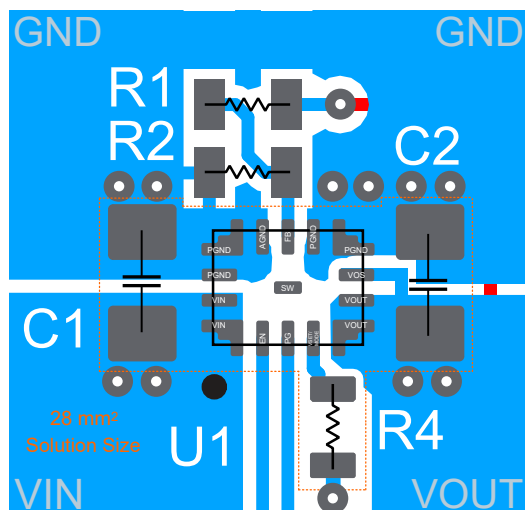
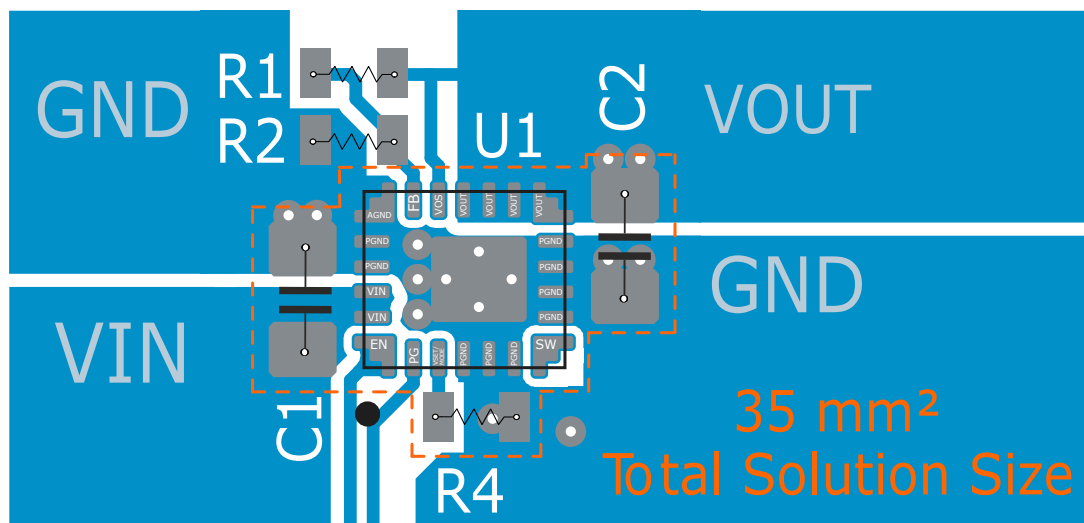

Figure 8-44. Layout Example RCF package
Figure 8-45. Layout Example RDJ and RDM package
- Refer to Figure 8-44 and Figure 8-45 for an example of component placement, routing, and thermal design.